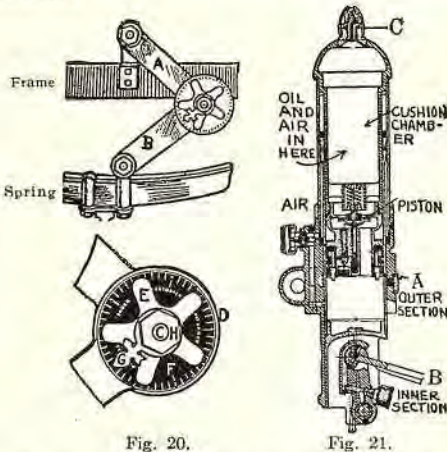

Fig. 20.
Fig. 20. Example of a friction type shock absorber (Hartford): Arms (A) (B) are attached to frame and axle. All these movable frictional parts offer constant resistance to the vibration of the spring in both directions. When the wheel strikes